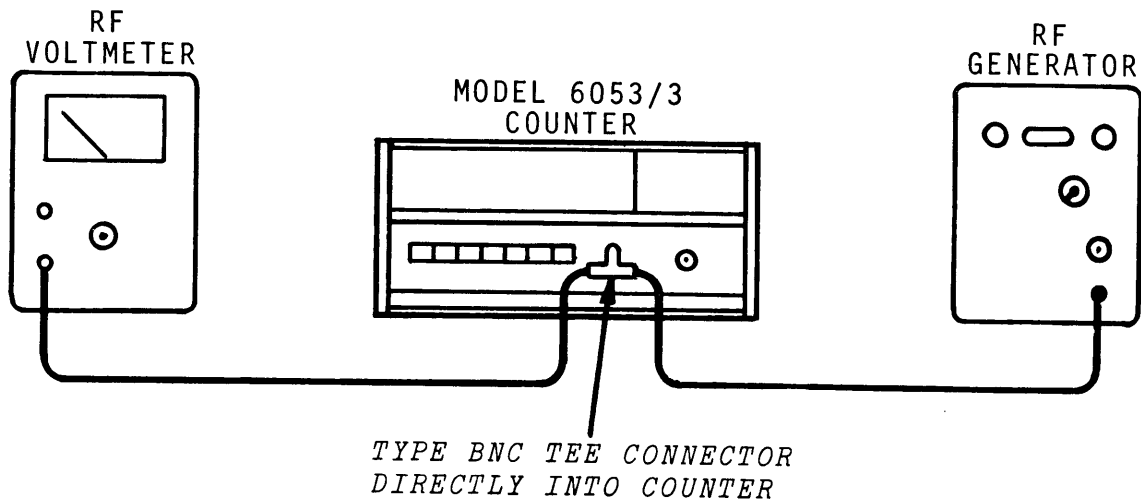

FIGURE 5.1 VOLTAGE MEASUREMENT OF RF INPUT
2. Apply 200MHZ at a level of 10 millivolts. This is measured at the front panel as shown in Figure 5.1.